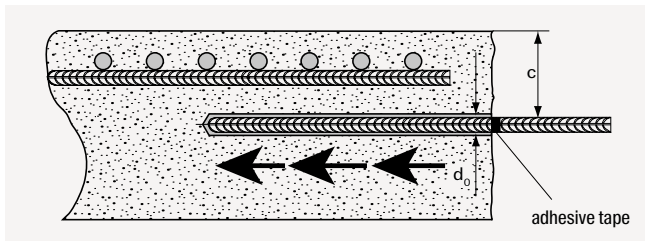

Fig. 6: Checking ease of movement of the reinforcement bar and the drill hole depth
- For testing purposes, the marked reinforcement bar is inserted into the cleaned drill hole to the bottom of the drill hole and turned at the same time, thus checking ease of movement of the reinforcement bar and the drill hole depth (Fig. 6).